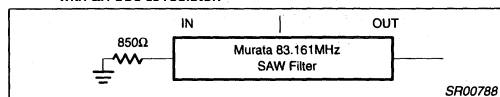

Figure 6. Termination of SAW Filter
2. Start with SAW filter input of Figure 6 and terminate that side with an 850 Ω resistor.